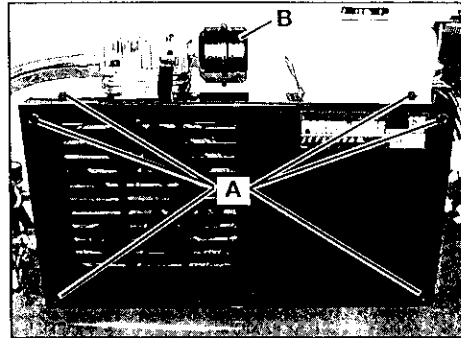

Fig. 8
2. (Refer to Figure 8) Remove the six screws (A) from the belt guard. The front of the belt guard can now be removed.
A dirty air filter will not allow the compressor pump to operate at full capacity. Before you use the compressor pump, check the air filter to be sure it is clean and in place (Refer to (B), Figure 8). If it is dirty, replace it with a new filter.